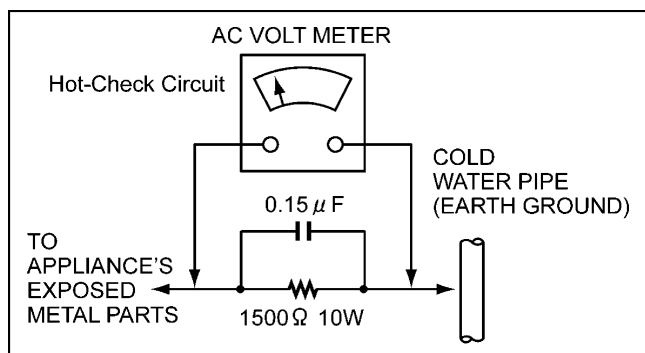

Figure1
## LEAKAGE CURRENT HOT CHECK (See Figure 1)
2. Connect a 1.5k , 10W resistor, in parallel with a 0.15 F capacitor, between each exposed metallic part on the set and a good earth ground such as a water pipe, as shown in Figure1.